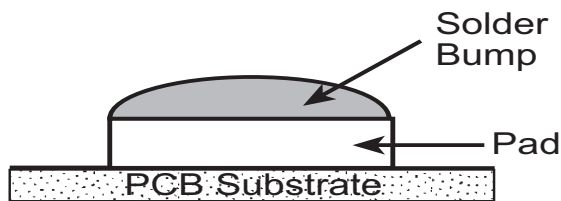

Figure 3. Creating a Solder Bump to Solder a Surface-Mounted Chip Component on a Pad
2. Flood the first pad with liquid flux. Place a solder bump on the pad as shown in Figure 3.